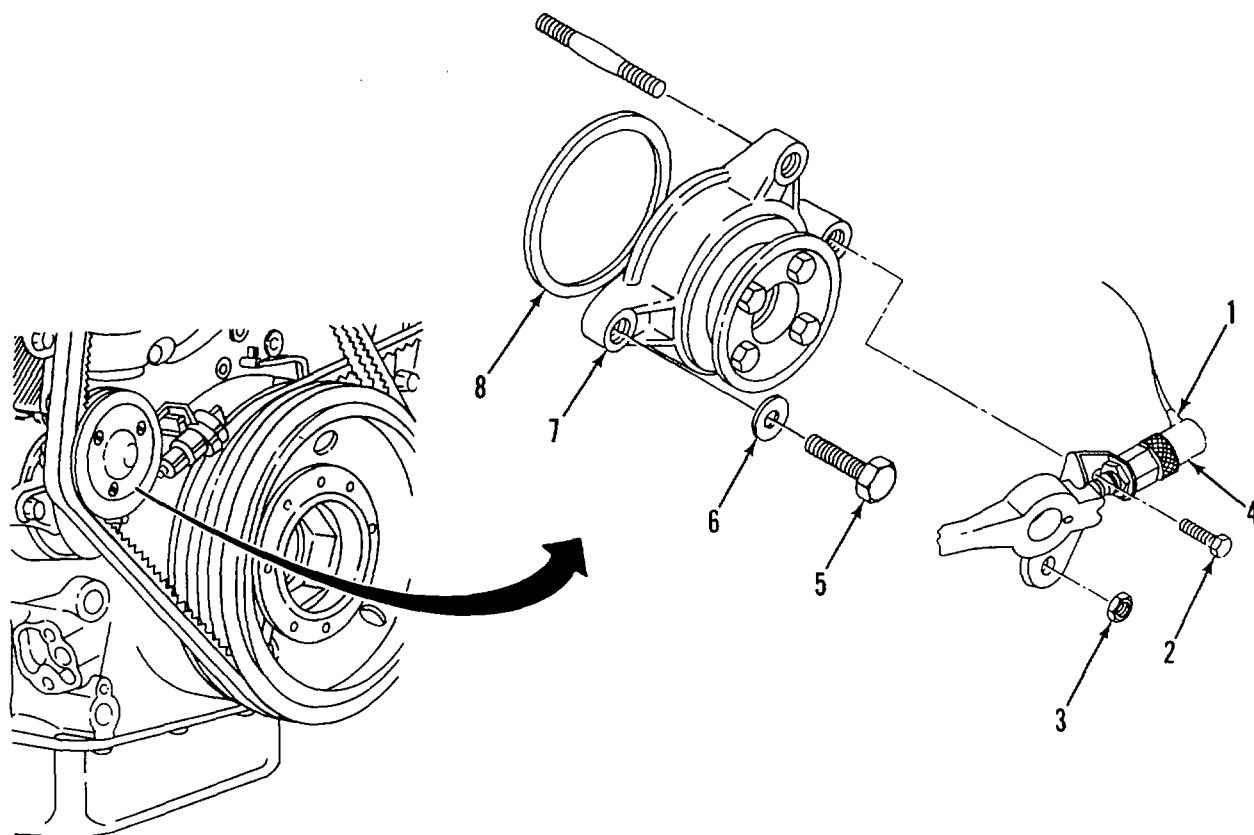

Figure 2-31. V-Belt Tensioner Assembly
- a. **REMOVE.** (Figure 2-31)